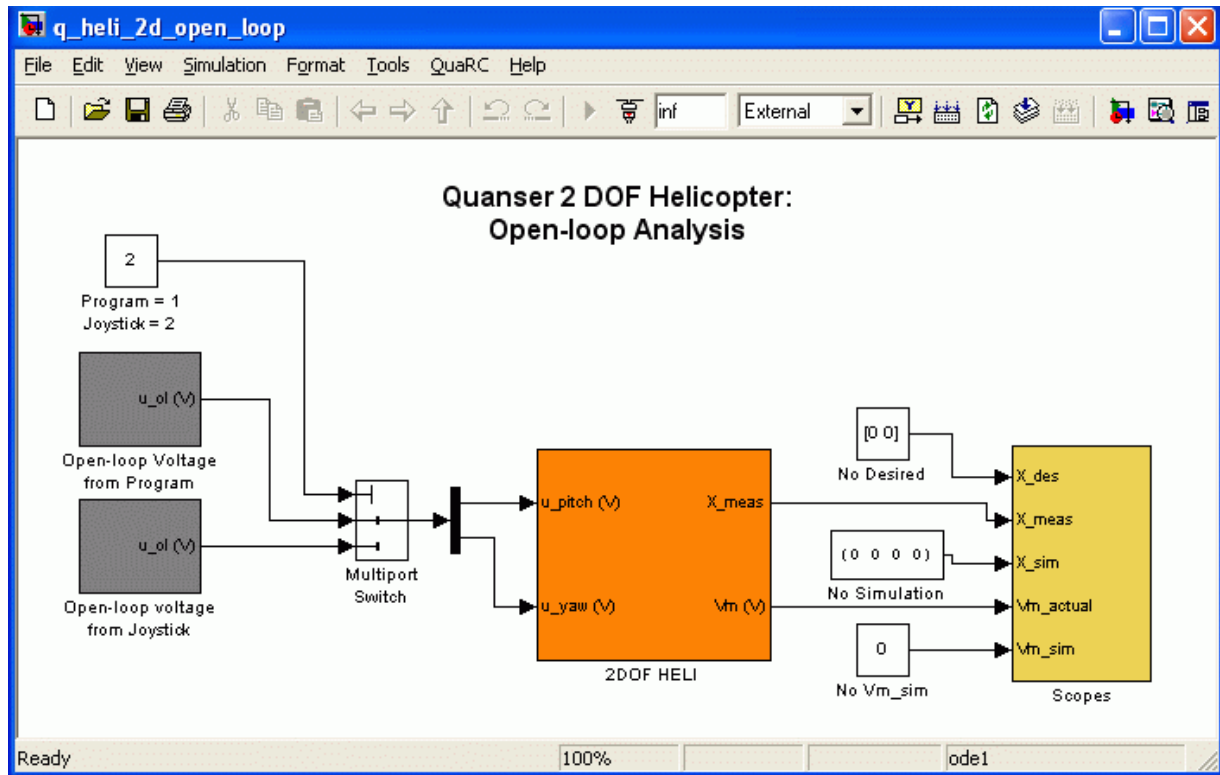

Figure 31: Simulink diagram to run 2-DOF Helicopter in open-loop with QuaRC.
2. Open Simulink model *q_heli_2d_open_loop.mdl* shown in Figure 31. The model runs your actual 2-DOF Helicopter plant by directly interfacing with your hardware through the QuaRC blocks, described in Reference [2].
11. In the *q_heli_2d_open_loop* Simulink diagram, make sure the *Program/Joystick* block shown in Figure 31 is set to 2 in order to generate the desired voltage from the joystick.